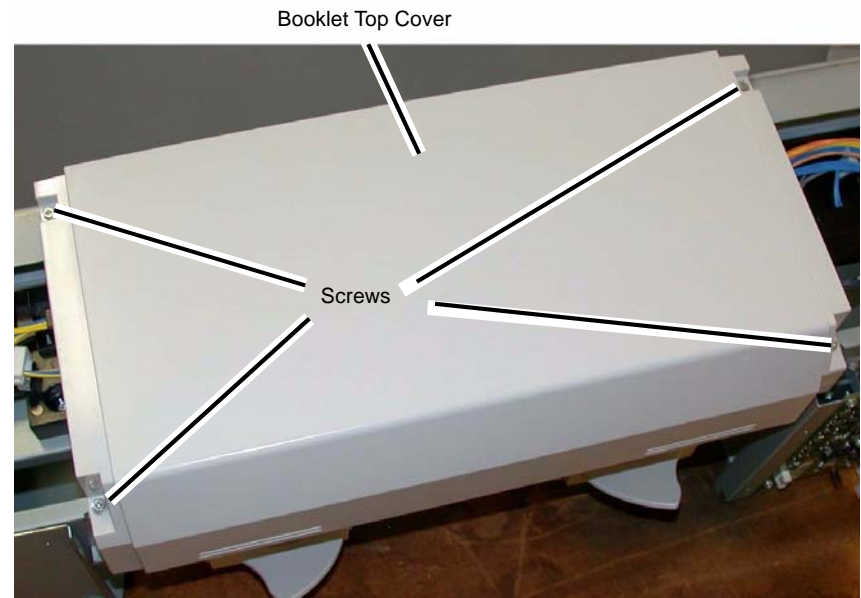

Figure 1 Removing the Booklet Top Cover
5. Remove the Booklet Top Cover (Figure 1).
- a. Remove the Screws (4).